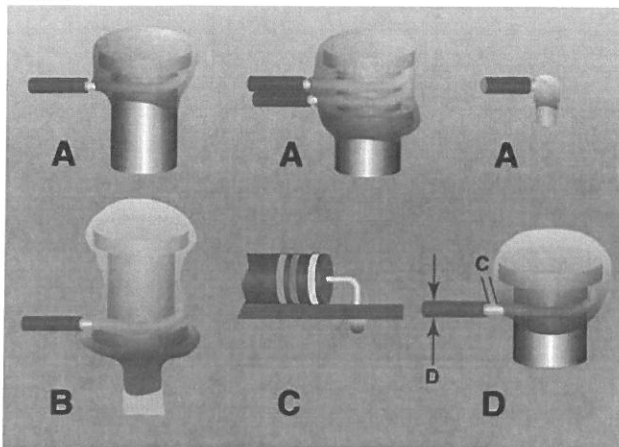

Figure 12-2
Wire/lead outline is discernible with a smooth flow of solder on wire/lead and terminal. Individual strands may be discernible, Figure 12-2 (B).
Straight-through leads facilitate ball soldering, Figure 12-2 (C).
Insulation clearance (C) is less than one overall diameter (D) away from the solder connection, Figure 12-2 (D).